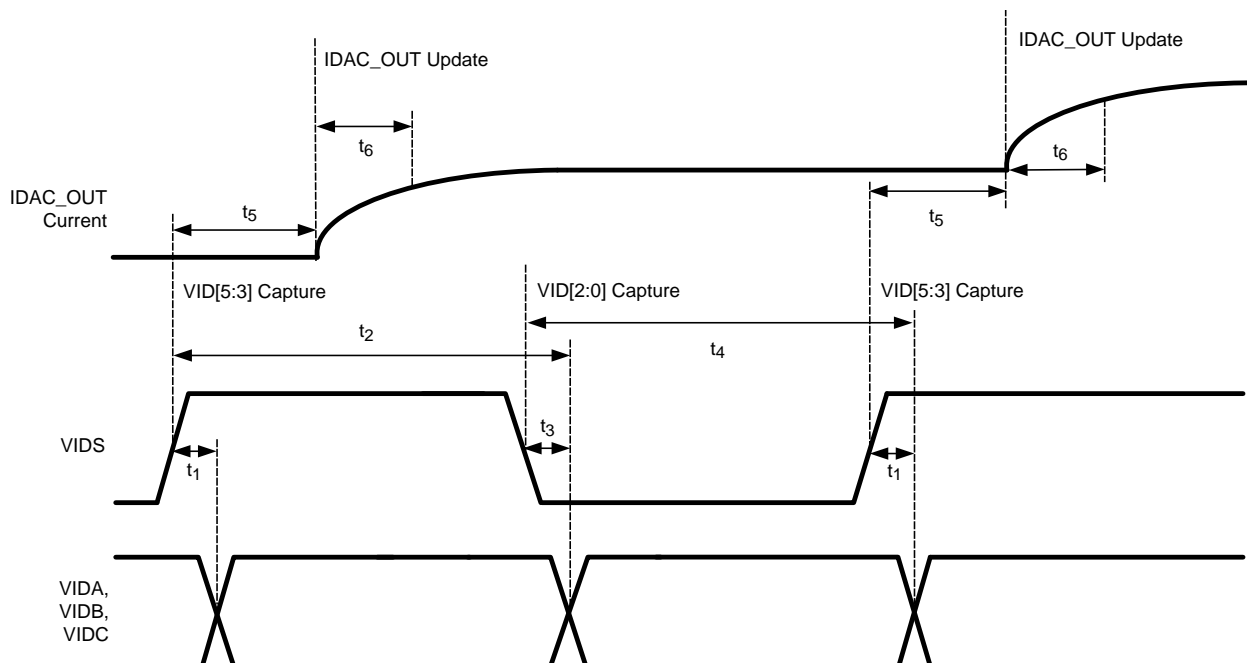

Figure 2. Timing Diagram for LM10010 Communications
(2) For VID timing, see Figure 2
Four pins are used to communicate with the LM10010. VIDC, VIDB, and VIDA are data lines, while VIDS is a latching strobe that programs in the LM10010 data. As shown in the Timing Diagram in Figure 2, the falling edge of VIDS latches in the data from VIDC, VIDB, and VIDA as the lower three LSB of the IDAC value. After a minimum hold time, the rising edge of VIDS latches in the data from VIDC, VIDB, and VIDA as the upper three LSB of the IDAC value. Internally, a delay on VIDS allows for the setting of all VID lines simultaneously.